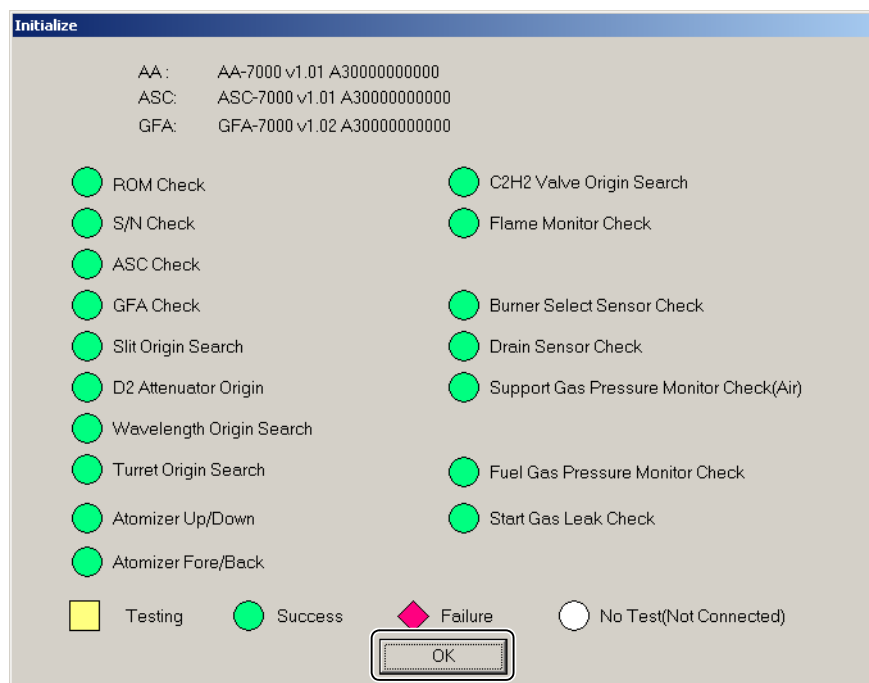

Fig. 7.10 [Initialize Instrument] screen
- (4) After inputting temperature, press the [Start]. Then the test starts. The items in the dialog box (Fig. 7.10) will be printed on the check result, which is output after the test.